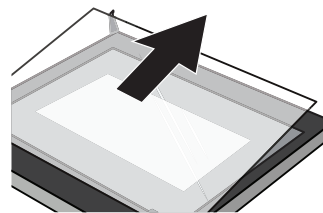

Figure 3
C. Push the double glass (inner glass) as indicated by the arrow in Figure 3 so as to "release" it at the top of the door. You can now remove it.